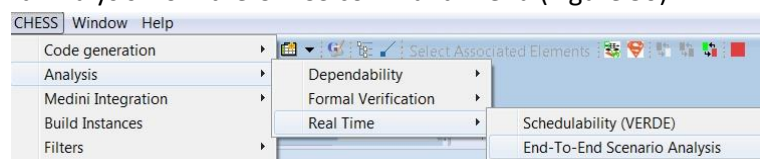

Figure 50 End2End Analysis Command
10. Invoke the End2End Analysis from the CHES command menu (Figure 50)